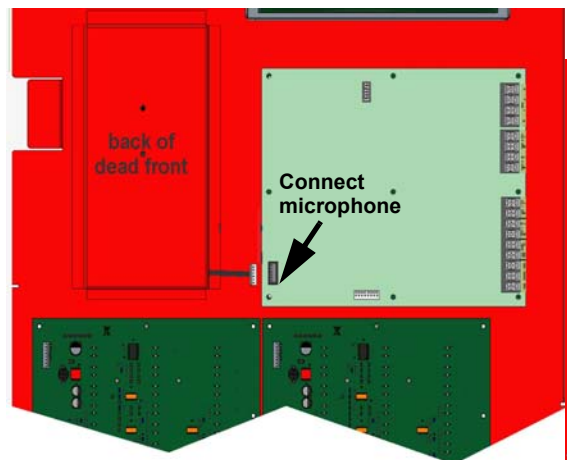

Figure 7 Microphone Cord Inserted Through the Dead Front Panel Hole
- Insert the microphone cord through hole on the side of the dead front panel. See Figure 7.